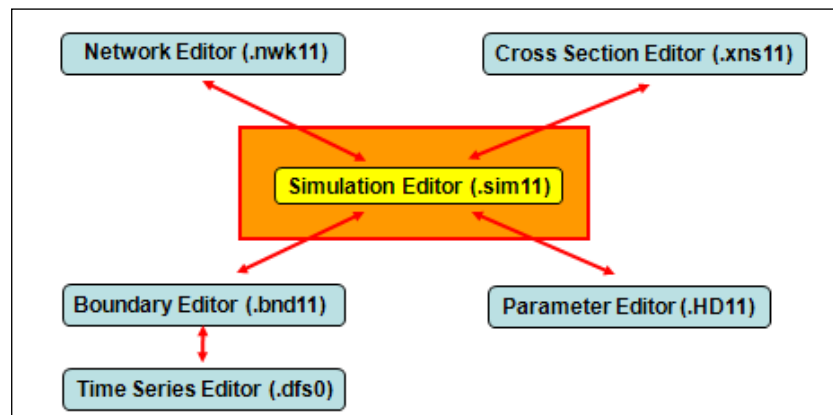

Figure 5.4 The MIKE 11 Simulation editor
2. It provides a linkage between the graphical view of the network editor and the other MIKE 11 editors as illustrated in Figure 5.4.